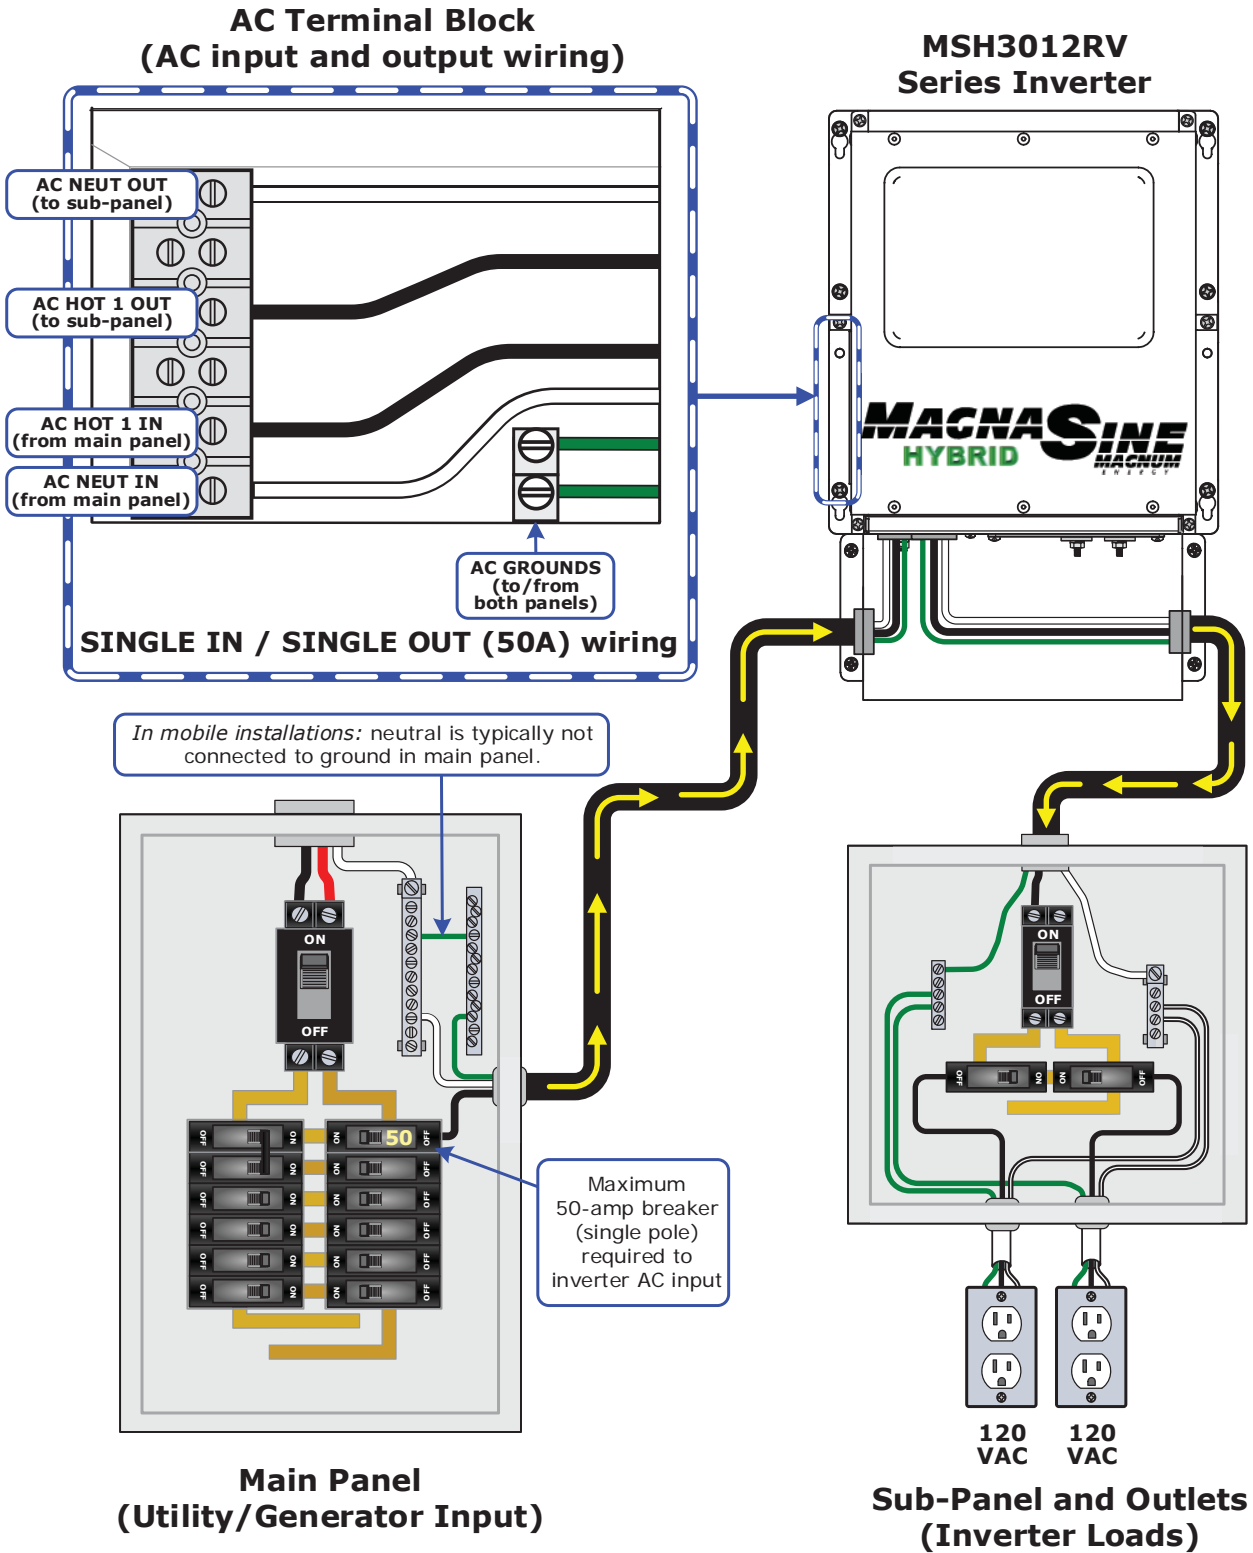

Figure 2-9, AC Wiring for Single In – Single Out (50A) Configurations
1. Route the wires (HOT, NEUTRAL, and GROUND) from the AC electrical main panel through one of the strain relief clamps on the inverter (Figure 1-2, Item 9). Tighten the strain relief clamp securely on the wires. Always leave a little extra slack in the wiring. Refer to Figure 2-9 for this procedure.
The following table provides the different wiring configurations for installing and connecting the AC conductors to and from the inverter (refer to Figures 2-9 to 2-11 for installation drawings showing these configurations).